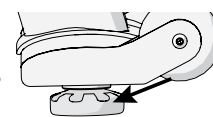

Figure 14
1. Try to rock the bike. If there is any movement, tip the bike to one side to locate the adjustable feet (Figure 14).